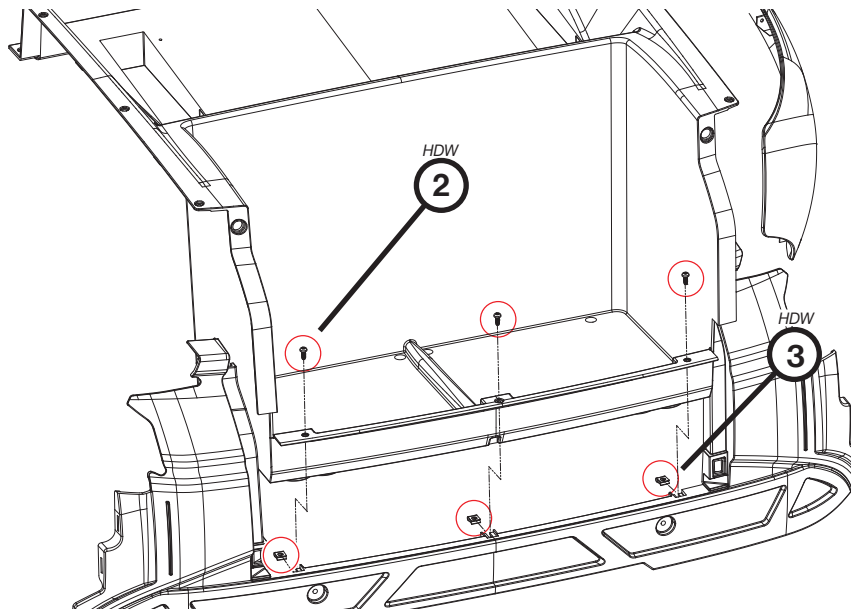
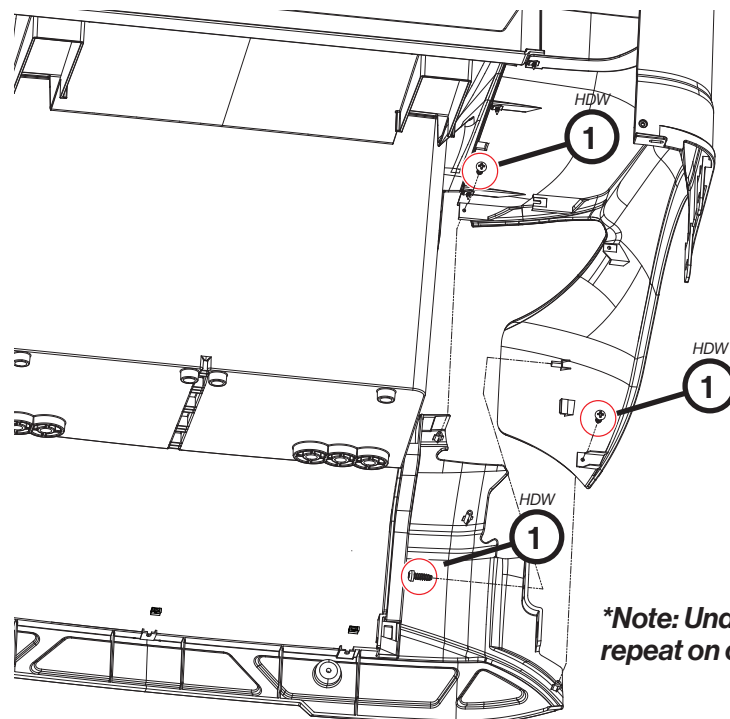

Fig. 6
Fig. 7
Align tabs on side body panels into slots on rear bumper as shown in Fig 7. Secure using three (3) M5 screws (*HDW 2*) into the clip nuts (*HDW 3*) as shown in Fig. 6. Tighten with a T25 Torx socket. Secure both sides with three (3) M4 self-tapping screws (*HDW 1*) using a T20 Torx socket. See Fig. 7.